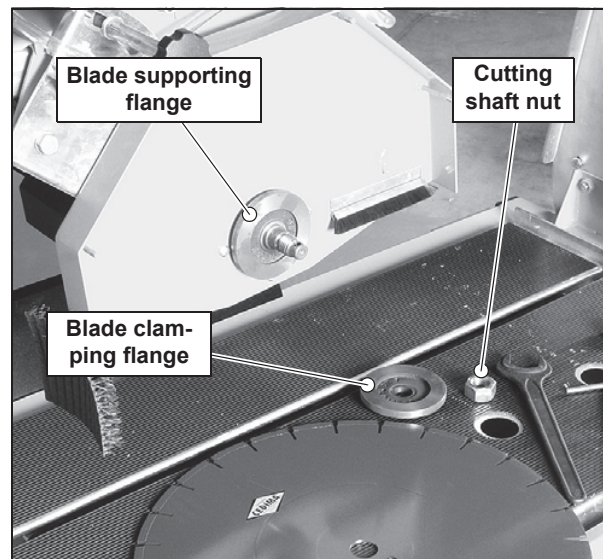

Fig. 3.11 Blade guard removed
3. Remove the blade clamping flange (fig. 3.11).